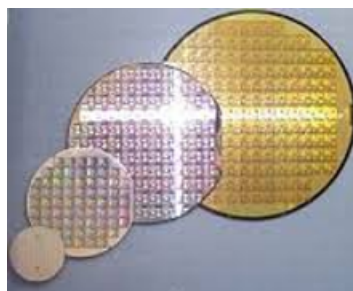

Figure 1: Wafers
**Wafers** In electronics, a wafer (also called a slice or substrate) is a thin slice of semiconductor, such as a crystalline silicon (c-Si), used for the fabrication of integrated circuits and, in photovoltaics, to manufacture solar cells, see Figure 1. The wafer serves as the substrate for microelectronic devices built in and upon the wafer. It undergoes many microfabrication processes, such as doping, ion implantation, etching, thin-film deposition of various materials, and photolithographic patterning. Finally, the individual microcircuits are separated by wafer dicing and packaged as an integrated circuit (source Wikipedia).